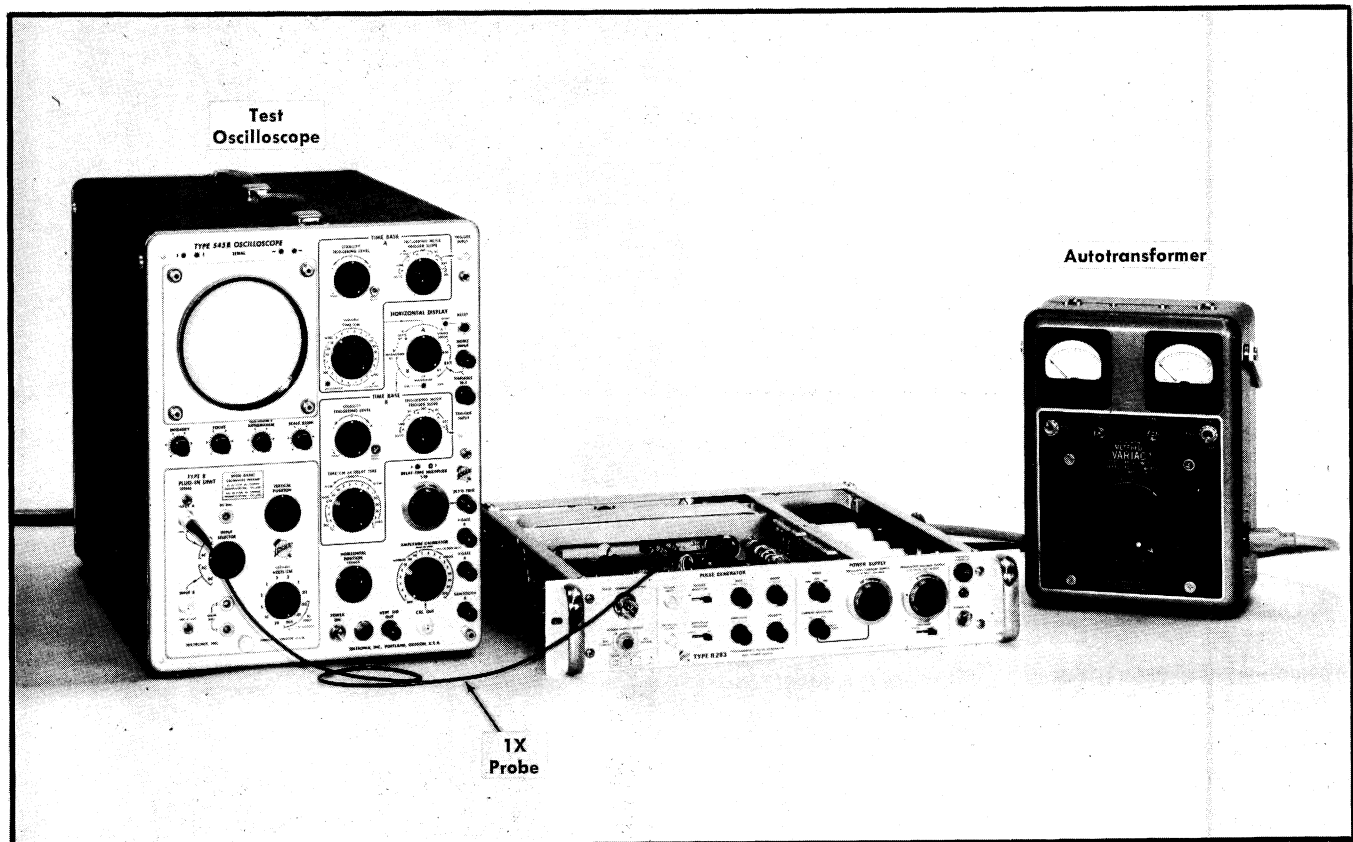

Fig. 6-5. Test equipment setup for step 4.
- a. Test equipment setup is shown in Fig. 6-5.